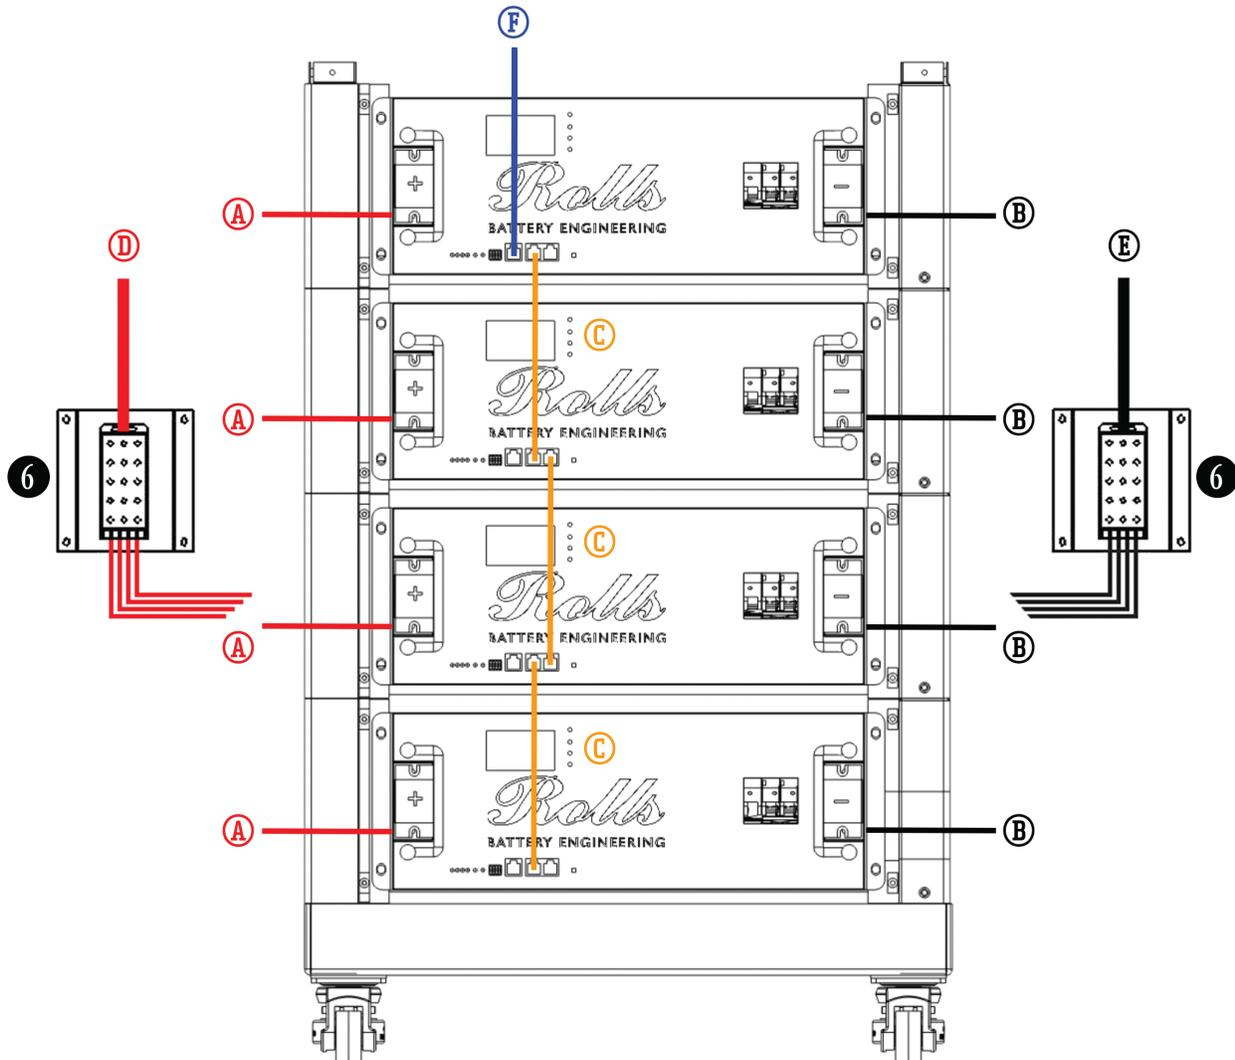

Figure 4.0
- C. Beginning at the bottom of the cabinet, insert a parallel communication cable **(C)** into one of the RS-485 ports on the front of the battery (either port). Insert the other end of the cable into a RS-485 port (either port) in the next battery. Insert another parallel communication cable **(C)** into the other RS-485 port in the second battery and connect to the next battery. Repeat this process until all batteries are connected in parallel as shown in Figure 4.0 above.
- D. Connect the 1m RJ45 Communication cable **(F)** into the available RS-485 port on the battery installed at the top of the cabinet as shown in Figure 4.0. Connect the other end of the cable to the RS-485 port on the underside of the cabinet top assembly. **(10)**